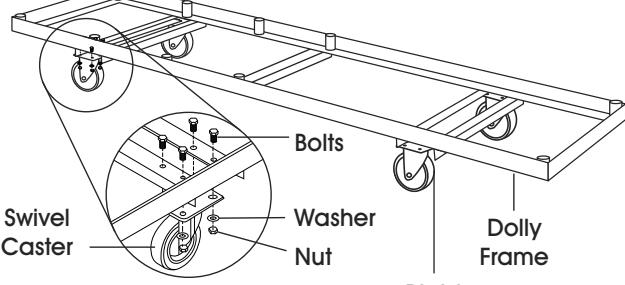

Figure 1
1. Using 16 bolts, 16 nuts and 16 washers, attach swivel casters on end of dolly frame with multiple sockets and attach rigid casters to other end of frame. (See Figure 1)